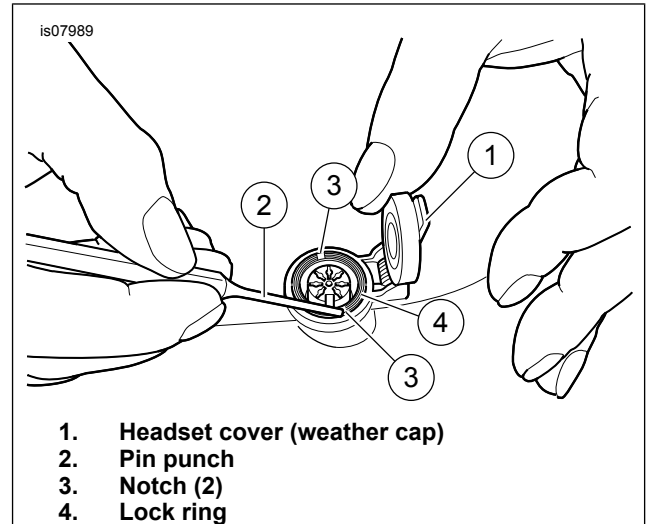
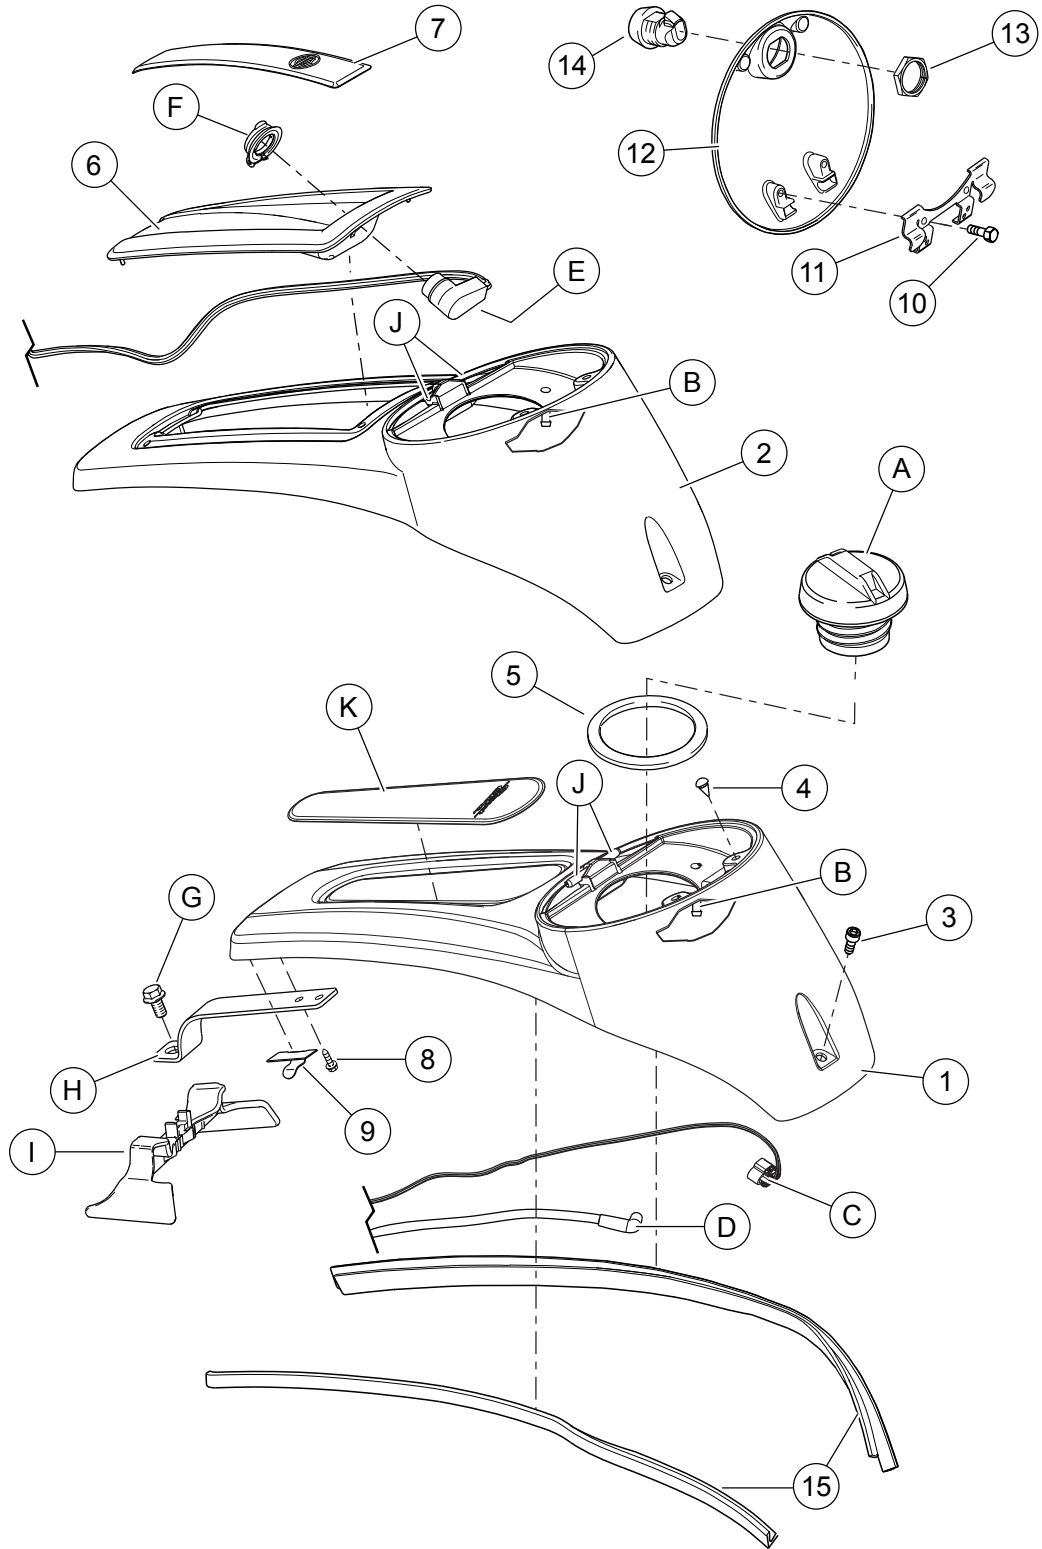

Figure 1. Remove/Install Headset Connector Lock Ring
Figure 2. Service Parts: Console, Fuel Door, Fuel Door Release Kits
See Figure 2 and Table 1.
2. See Figure 2. Open the fuel door (12). Remove and retain fuel filler cap (A).
3. Remove and discard screw (3). Remove and retain screw (G).
4. Carefully remove currently installed console (1) or (2).
5. Note location and orientation of fuel pump connector (C). Unplug connector from block if necessary.
6. Remove drain tube (D) from drain nipple (B).
7. Note tube and harness that are under clips (9).
8. **Models with front headset connector:** See Figure 1. Open headset cover (1). Place pin punch (2) in either notch (3) of lock ring (4). Rotate counterclockwise to loosen.
9. Remove lock ring (4) and cap (see Figure 2, Item F).
10. **All models:** See Figure 2. Remove screws (8) and bracket (H). Retain bracket. Discard screws.
11. **If reusing fuel door and latch/lock:** Remove and retain screws (10), clip (11) and fuel door (12).
1. See Figure 2. Clean the area on the console (1 or 2) where console insert (6 or K) is applied.
4. **Models with front headset connector:** Insert the headset connector (E) through the insert (6).
5. Slide weather cap over headset connector (F).
6. See Figure 1. With the notches (3) on the outboard side, thread lock ring (4) onto the headset connector.
7. Place pin punch (2) over either notch. Rotate clockwise until tight.
8. **All models:** See Figure 2. Install bracket (H). Secure with **new** screws (8).
9. Install rubber molding (15) to console (1 or 2). The longer edge of each rubber molding goes on the **inboard** side.
10. Install boot (5) so the smooth side is facing **up**.